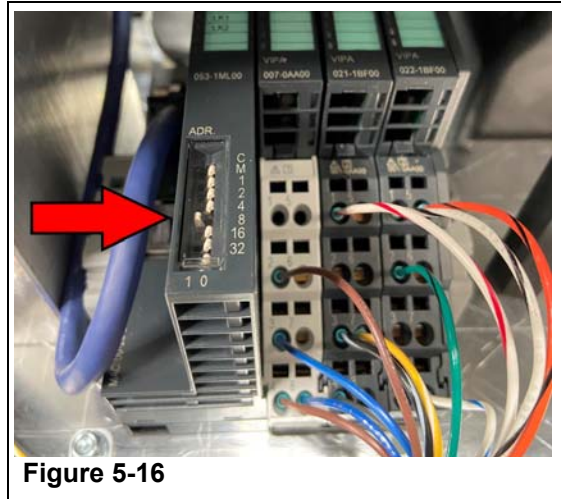

Figure 5-16
- ii. Slide open (up) the ADR window on the top (front face) of the module, and flip the #4 dip switch (5th switch from top) from RIGHT to LEFT (1 to 0). Setting this dip switch assigns the modules node address so the controller can properly communicate with it. (Refer to Figure 5-16)